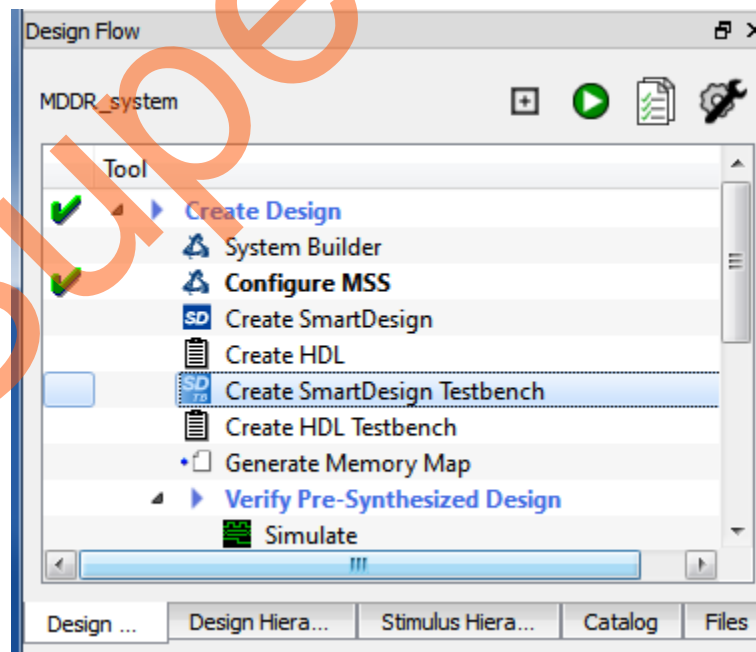

Figure 16. Opening SmartDesign Testbench
2. Double-click the **Create SmartDesign Testbench** in the **Libero Design Flow** window, as shown in Figure 16.